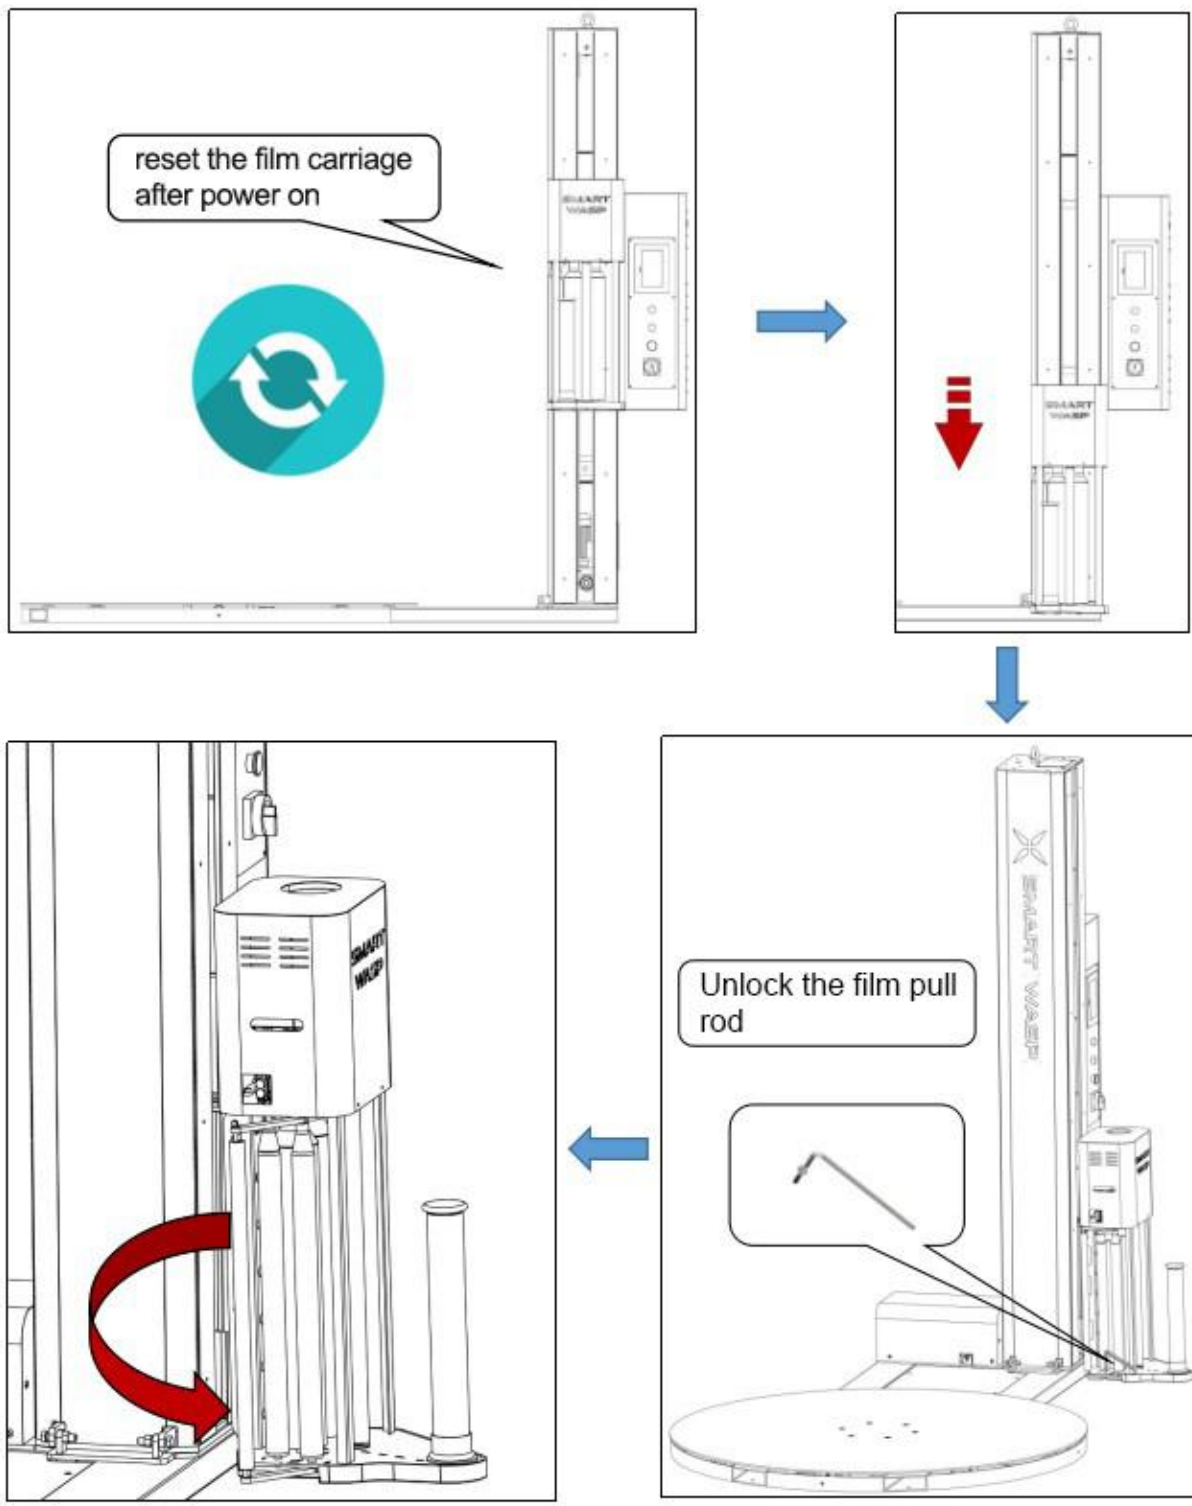

图 4.5.4.1
(1) Turn on the power and manually reset the Film carriage to the lower limit. Turn the main power switch counterclockwise to turn off the machine.
(2) Unscrew the screw used to fix the film exit lever to reset the film exit lever. As shown in Figure 4.5.4.1.